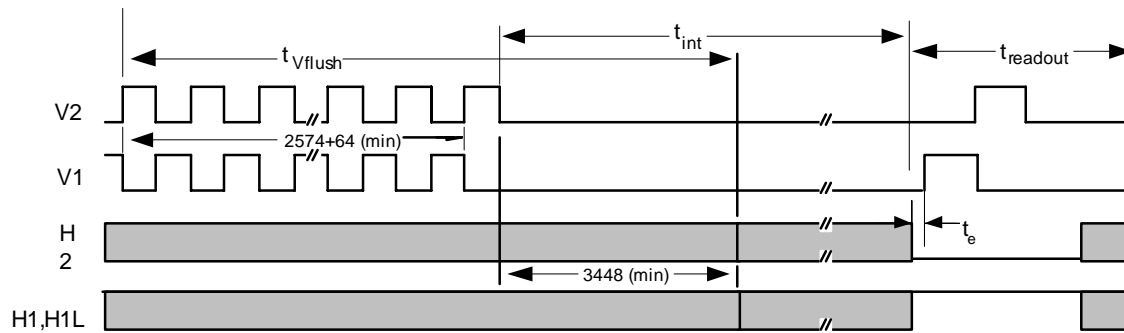

Figure 17: Power-up Flush Cycle
6. See Figure 17 for a detailed description.